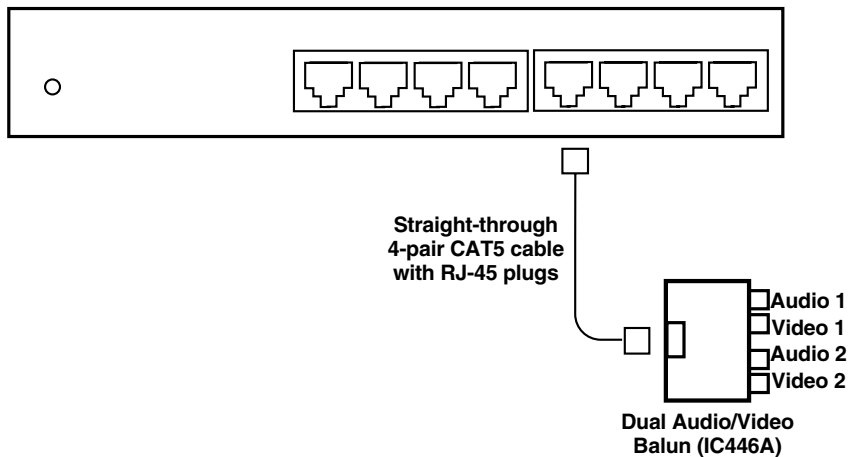

Figure 3-6. Hub-to-balun output connection (IC446A balun shown).
7. One at a time, connect the twisted-pair cables coming from the A/V destination devices into the RJ-45 output jacks on the hub's front-panel, as shown in Figure 3-6.